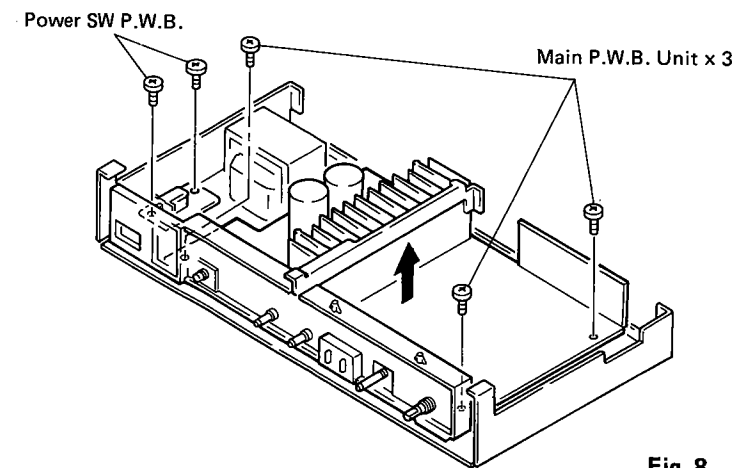

Fig. 8
4. How to remove the P.W.B. Unit (Fig. 8)